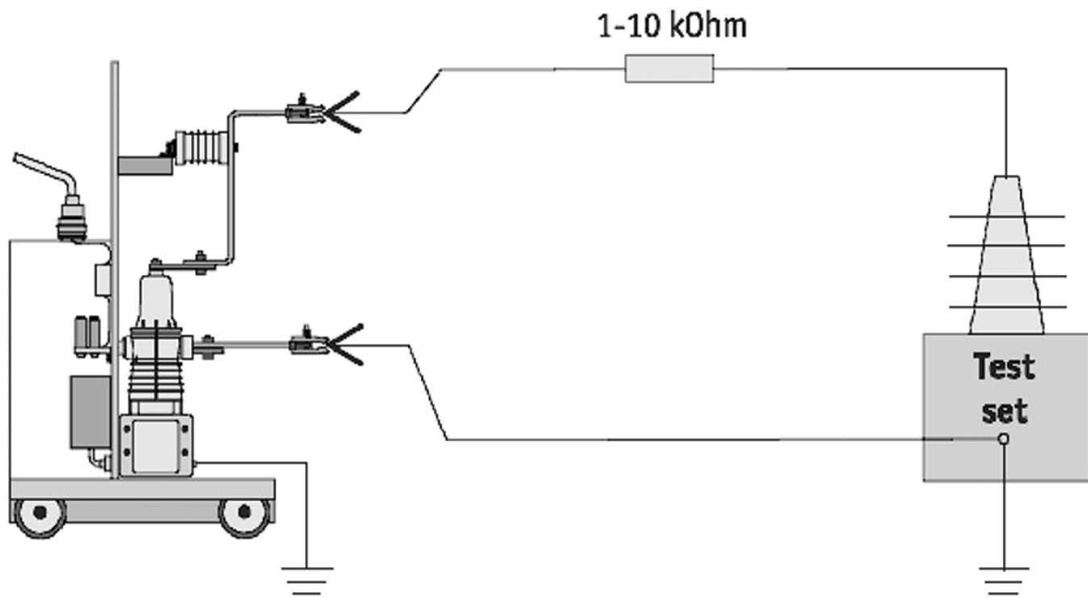

Figure 94
5) To apply test voltage single-core short cables should be used. Application of high voltage coaxial cables is strictly prohibited. To coordinate the surge impedance between the test set and ISM extra resistor as shown in the Figure 94 shall be used.
4) To apply test voltage the single-core short cables should be used. Application of high voltage coaxial cables is strictly prohibited. To coordinate the surge impedance between the test set and ISM extra resistor as shown in Figure 94 shall be used.